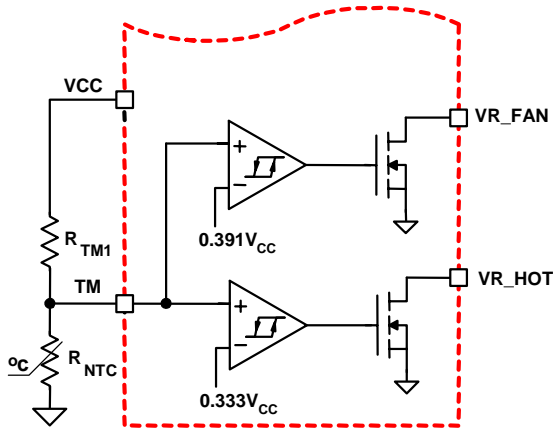
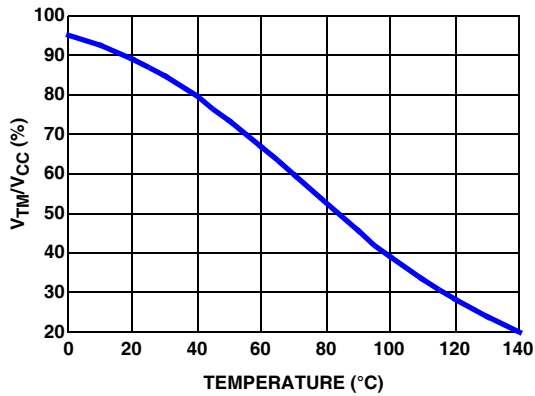

FIGURE 14. BLOCK DIAGRAM OF THERMAL MONITORING FUNCTION
FIGURE 15. THE RATIO OF TM VOLTAGE TO NTC TEMPERATURE WITH RECOMMENDED PARTS
The diagram of the thermal monitoring function block is shown in Figure 14. One NTC resistor should be placed close to the power stage of the voltage regulator to sense the operational temperature, and one pull-up resistor is needed to form the voltage divider for TM pin. The NTC thermistor should be placed next to the current sense element of a phase that will remain active when  $PSI\#$  is asserted low. As the temperature of the power stage increases, the resistance of the NTC will reduce, resulting in the reduced voltage at the TM pin. Figure 15 shows the TM voltage over temperature for a typical design with a recommended  $6.8k\Omega$  NTC (P/N: NTHS0805N02N6801 from Vishay) and  $1k\Omega$  resistor RTM1. We recommend using these resistors for accurate temperature compensation.
Based on the VCC voltage, ISL6336, ISL6336A converts the TM pin voltage to a 6-bit digital signal for temperature compensation. With the non-linear A/D converter of ISL6336, ISL6336A, the TM digital signal is linearly proportional to the NTC temperature. For accurate temperature compensation, the ratio of the TM voltage to the NTC temperature of the practical design should be similar to that in Figure 15.
1. Properly choose the voltage divider for TM pin to match the TM voltage vs temperature curve with the recommended curve in Figure 15.